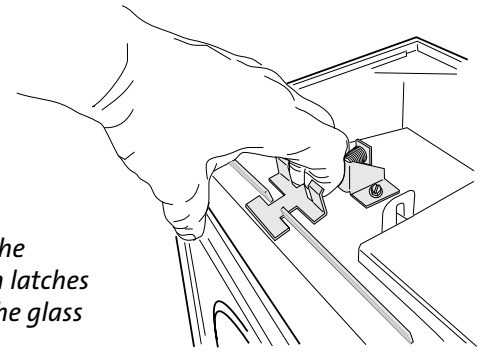

Figure 39.
2. **Remove the Glass Frame.** Disengage the two compression latches located at the top of the firebox and lift the glass frame up and off of the stove. See fig. 39.